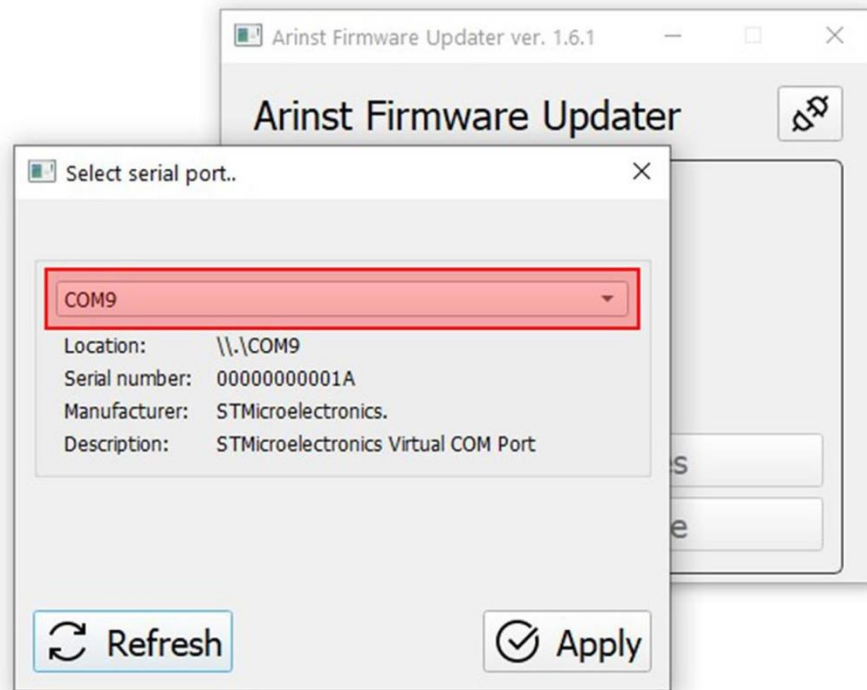

Figure A2.2 - Selecting a virtual COM port for connecting the device
2.4. In the window that opens, from the drop-down list select the virtual COM port for connecting the device (Figure A2.2).
In our example, in Figure A2.2, the COM9 virtual port is selected.